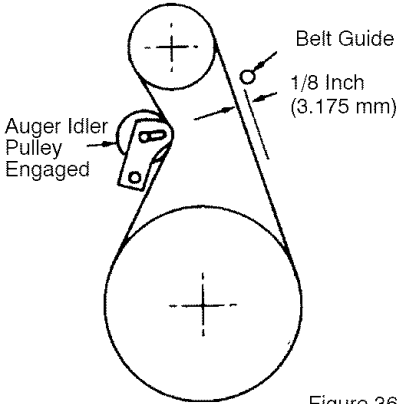

Figure 36
3. Measure the distance between the belt guide and belt. The distance should be 1/8 inch (3.175 mm) for guide. See Figure 36.